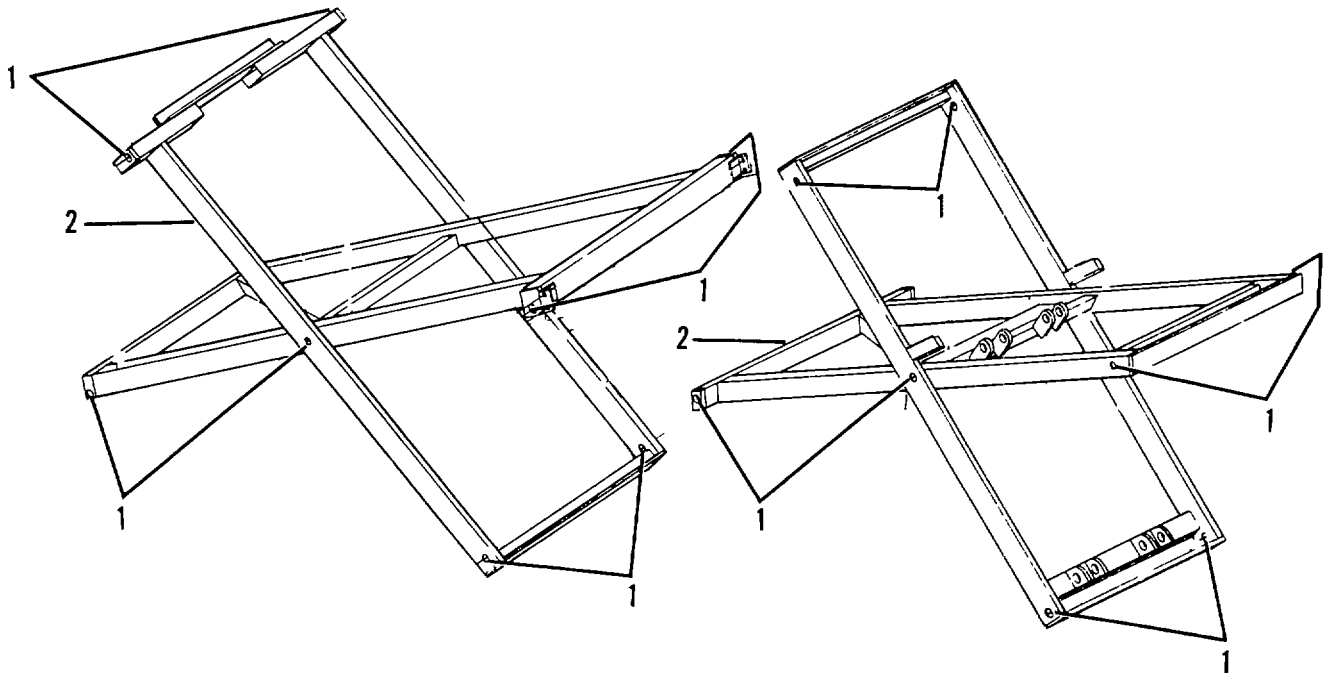

Figure 4-40. Scissors Bushings.
a. SCISSORS BUSHINGS:**(1) Disassembly:**
- (b) Using a hammer and soft drift, remove bushing(s) (1, Figure 4-40) from scissors frame (2) by tapping evenly on the face of the bushing at points 90° from one another.